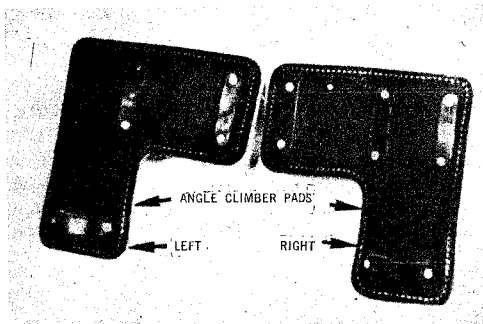

Fig. 4 — Pads
2.04 Angle climber pads, Fig. 4, are available for use with climbers.